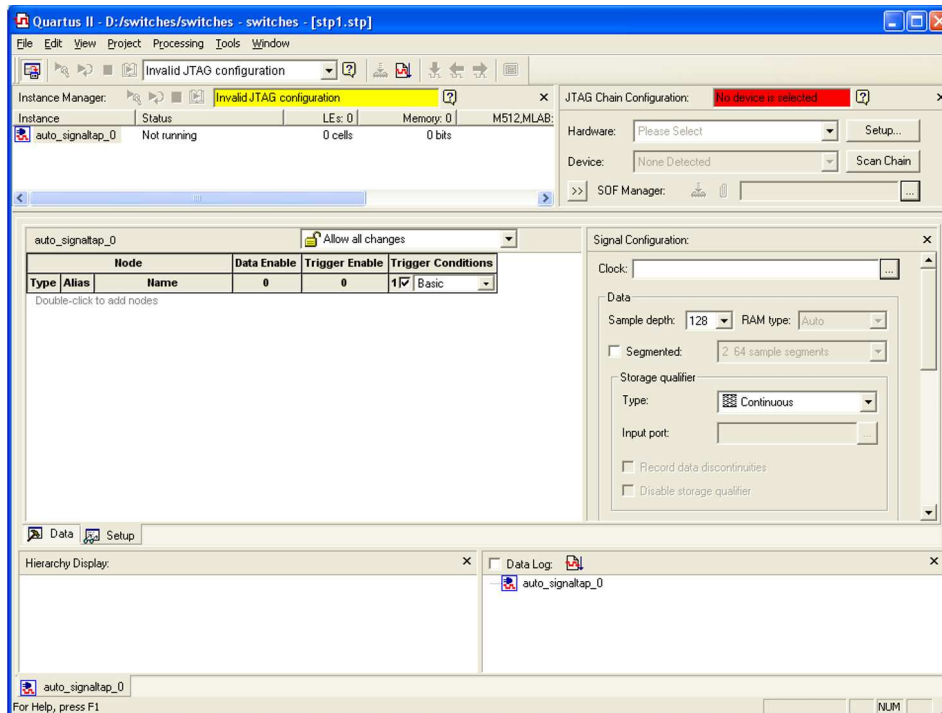
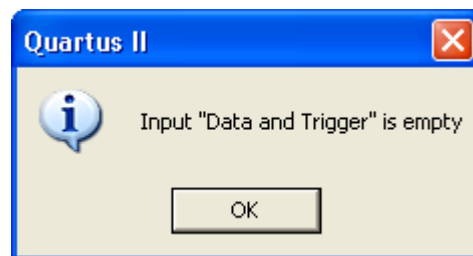
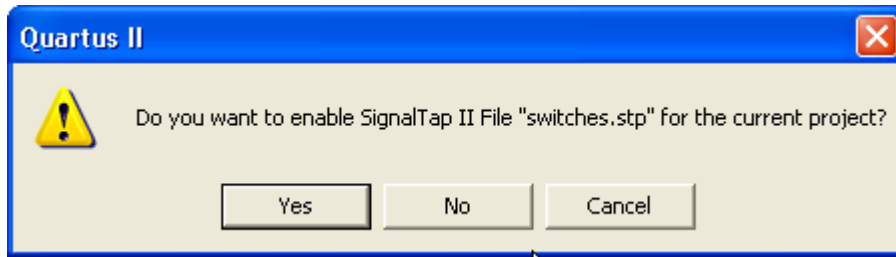

Figure 3. The SignalTap II window.
Figure 4. Click OK to this dialog.
Figure 5. Click Yes to this dialog.
2. The SignalTap II window with the **Setup** tab selected is depicted in Figure 3. Save the file under the name *switches.stp*. In the dialog box that follows (Figure 4), click **OK**. For the dialog "Do you want to enable SignalTap II file 'switches.stp' for the current project?" click **Yes** (Figure 5). The file *switches.stp* is now the SignalTap file associated with the project.